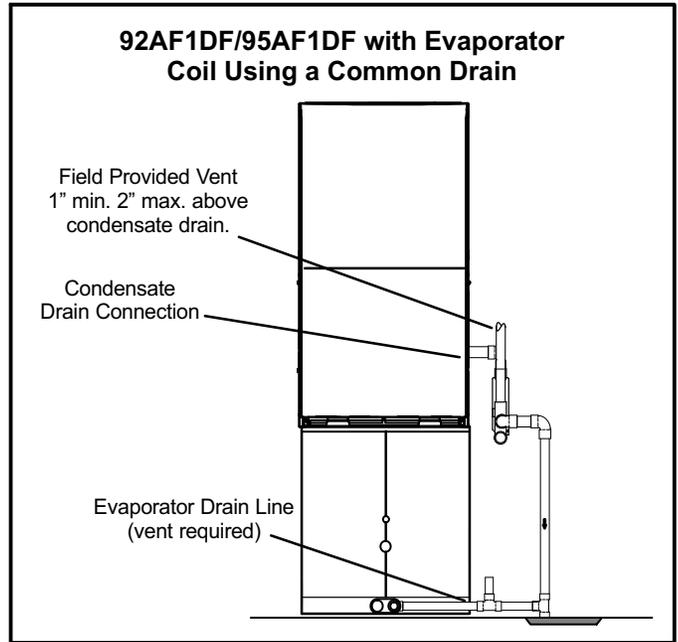
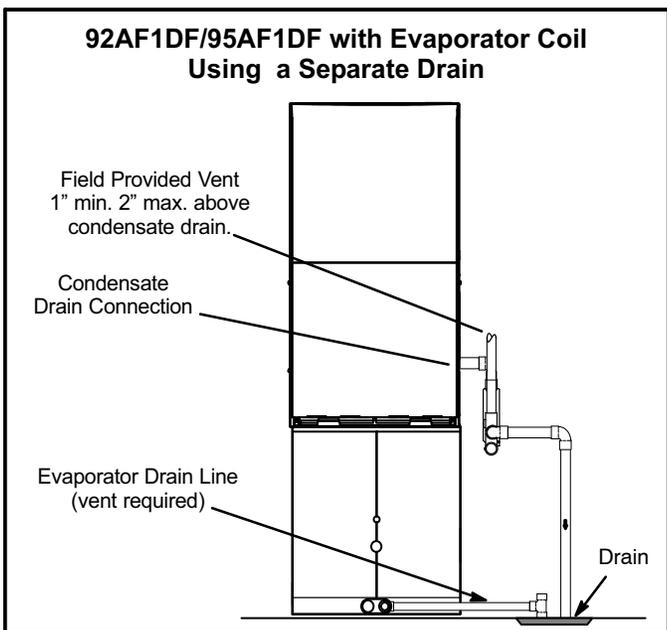

FIGURE 44
FIGURE 43
- 5 - Figure 43 shows the furnace and evaporator coil using a separate drain. If necessary, the condensate line from the furnace and evaporator coil can drain together. See figures 44 and 45. The field provided vent must be a minimum 1" to a maximum 2" length above the condensate drain outlet connection.